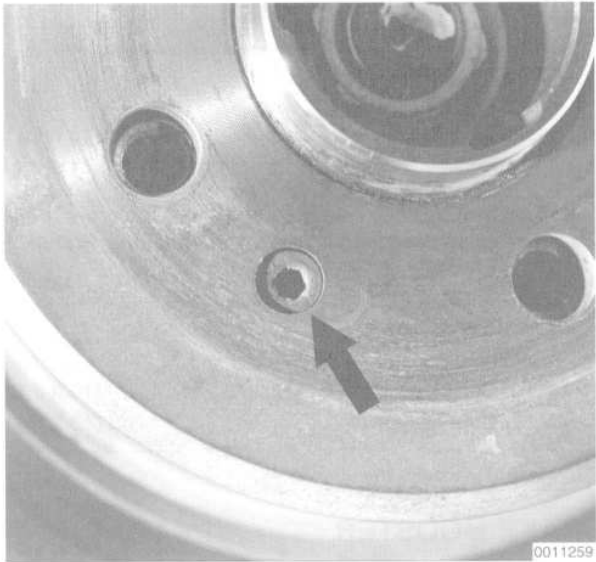

Fig. 10. Brake rotor mounting screw (arrow).
2. Remove the bolt holding the rotor to the wheel hub. See Fig. 10.